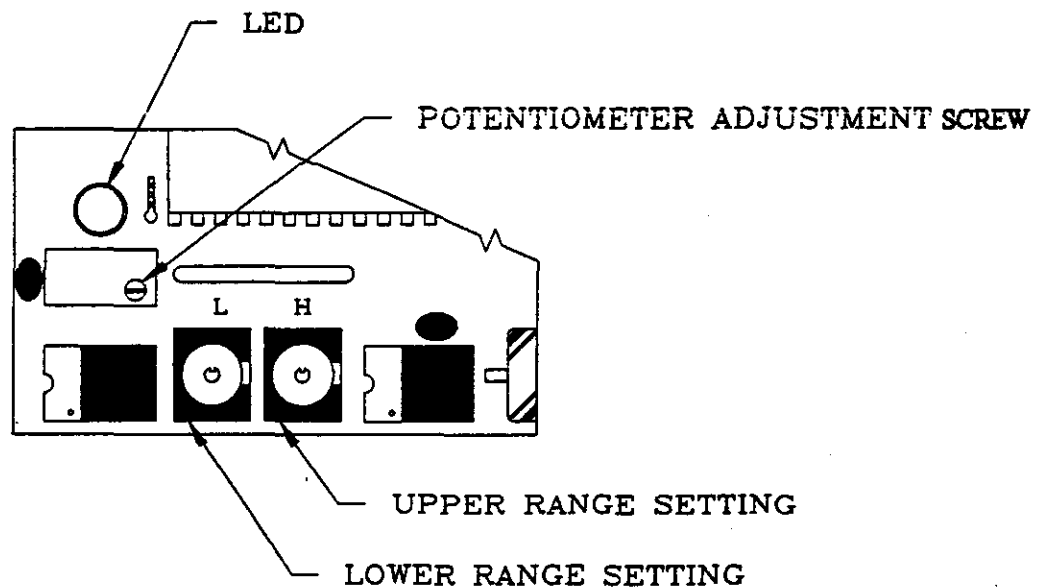

Figure 1
2. With power on, pull pendant trigger to full on position. Adjust potentiometer adjustment screw located next to the red light (see Figure 1) until light just turns off, then turn trim pot back until the light just comes on. The light should stay on during full trigger movement. Clockwise rotation of the trim pot will turn light off. Counter-clockwise rotation will turn the light on. This "tunes" the amplifier to the trigger potentiometer.
3. After warming the hydraulic system oil, determine which function should be used to set the low position switch (ROTATE USES THE LEAST AMOUNT OF PRESSURE). Activate that function with trigger released, and turn the lower range setting dial (REF. FIG 1: MARKED WITH "L" ON CIRCUIT BOARD) until the desired speed is reached. The "Zero" and the "F" on the dial are opposite ends of the switch. To adjust the low set point, turn **CLOCKWISE DIRECTION** for **INCREASED FLOW**, **COUNTER CLOCKWISE DIRECTION** for **DECREASED FLOW**. This adjusts the "Threshold Speed" for the trigger in the released position.
4. Operate the boom up function with trigger pulled back to the maximum position. Turn the high range setting dial (REF. FIG 1, MARKED WITH "H" ON CIRCUIT BOARD) until there is a noticeable decrease in speed, then back up one or two notches as desired. "Zero" is the maximum speed setting and "F" is the most reduced speed setting. To set the high range dial, turn **CLOCKWISE DIRECTION** for **DECREASED FLOW**, **COUNTER CLOCKWISE DIRECTION** FOR **INCREASED FLOW**. This operation adjusts the trigger "Dead Band" at the fully pulled position.
**IF THE THREE FUNCTIONS, BOOM DOWN, HOIST UP AND EXTEND OUT, QUIT WORKING**, the problem probably lies in either the Overload System or the Anti-2-block system or both. If these three functions are **NOT WORKING** and most other functions are, an investigation should be made as follows: (reference: Figure 1 )